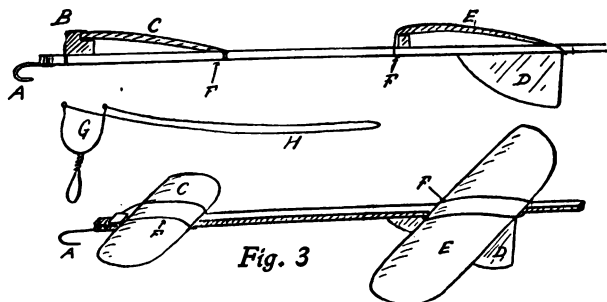

Fig. 3
Almost as simple as the skeeter is the "loop-the-loop glider," shown in Fig. 3. For pure amusement this device will prove very satisfactory, for it will fly several hundred feet, and can be made to perform numerous remarkable evolutions, such as "looping the loop," "dipping the dip," etc. This glider consists of a single stick having at its forward end a wire hook (A) and an elevating-block (B) to which is attached the forward wing or plane (C). At the rear end of the stick is a vertical "fin," or keel (D), and above this the main plane (E). Both of these planes, C and E, are attached to the stick by rubber bands (F). Either thin wooden or fiber planes may be used, and even thin aluminum planes often prove very satisfactory. In addition to the glider you must also have a sling of wire (G), to which a long and powerful elastic band is attached (H).